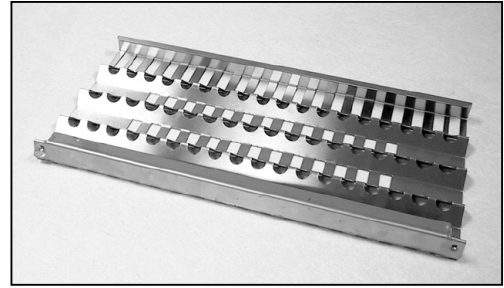

Fig. 37
1. Unpack ceramic rods and remove radiant (Fig.37) from the unit.